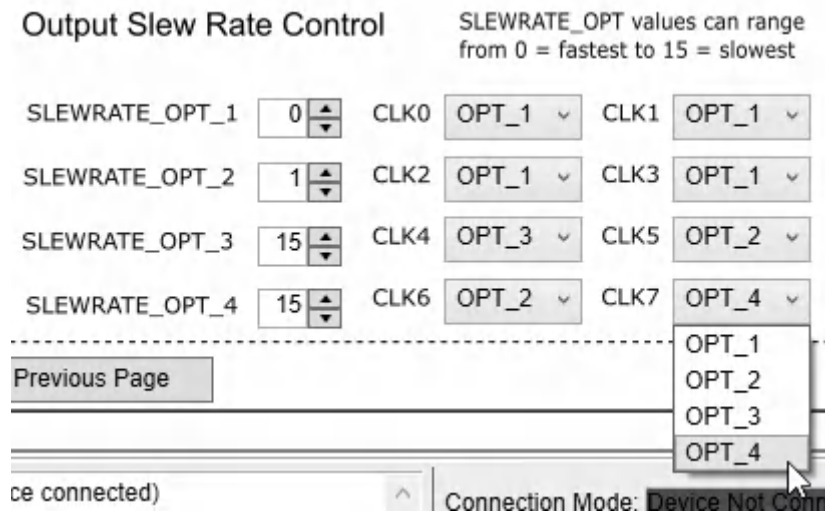

Figure 4-5. Setting Output Slew Rate Example in TICS Pro
- a. Following the example from step 1a, if you wanted CLK0, CLK1, CLK2, and CLK3 to have the fastest slew rate, CLK4 and CLK7 to have the slowest slew rate, and CLK 5 and CLK6 to have the second fastest slew rate, set the drop-down menus of CLK0, CLK1, CLK2, and CLK3 to OPT_1, CLK4 and CLK7 to OPT_3 or OPT_4, and CLK5 and CLK6 to OPT_2 as shown in Figure 4-5.